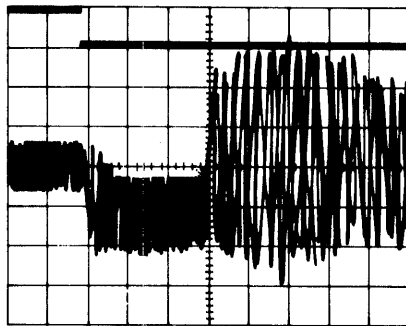

Figure 7-12 Phase Lock Loop Balance
7.4.4 Phase Lock Loop Balance (R35) (Figure 7-12)